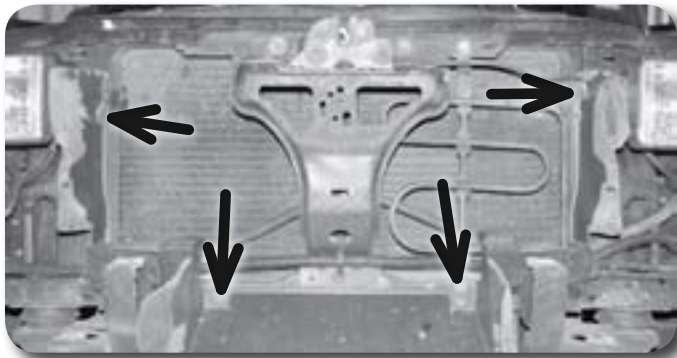

Figure 6
8. Remove the plastic air scoop **Figure 6** from the core support by carefully releasing the four plastic push in fasteners. Save fasteners.